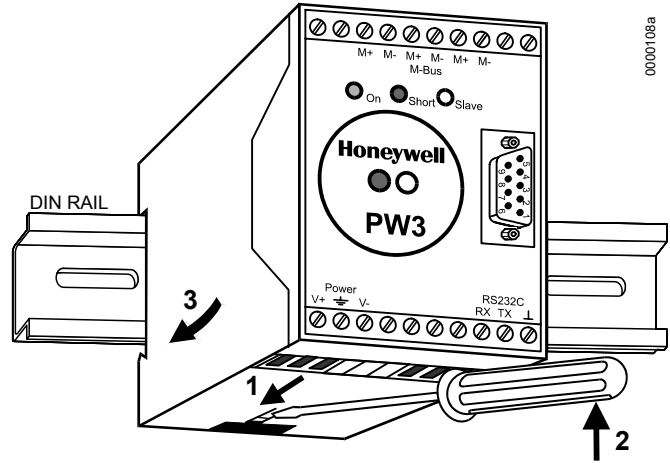
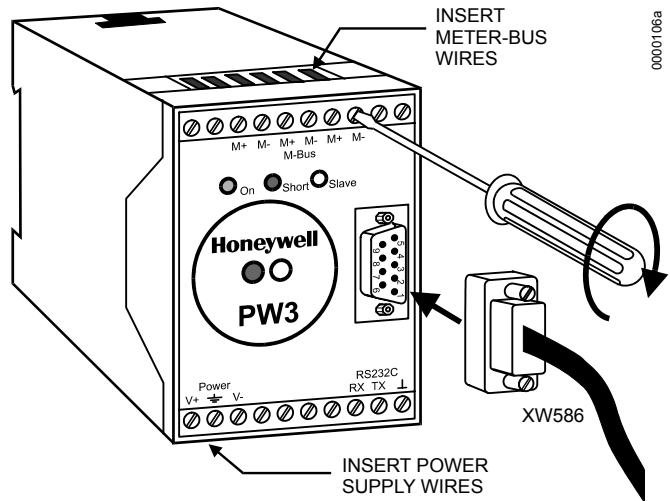

Fig. 37. Mounting of PW3
Fig. 38. PW3 Meter-Bus adapter connections
1. Install PW3 Meter-Bus Adapter on DIN rail. Insert a screwdriver into the slot in the DIN rail clamp on the underside of the PW3 and pry downward to loosen clamp until the unit snaps onto the rail. See Fig. 37.
Meter-Bus activity can also be monitored using the slave LED on the PW3 (see Fig. 37, Fig. 38).